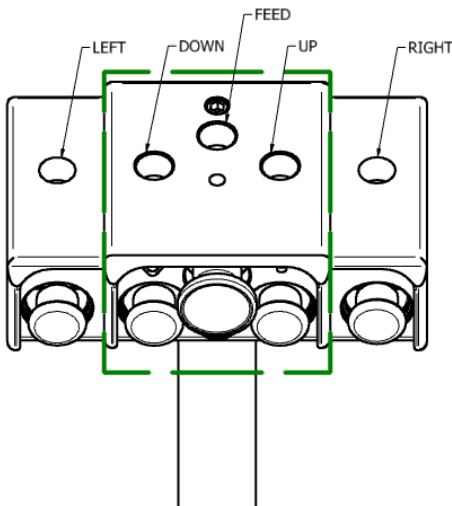
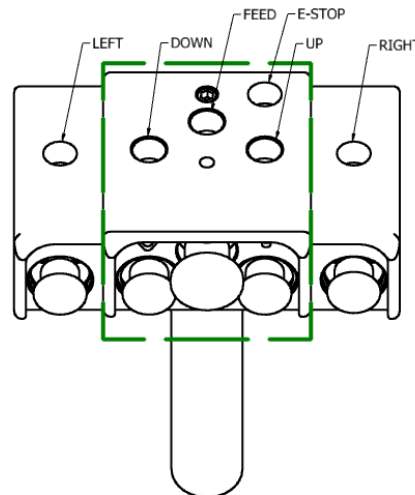

Figure 3: Pendant control with Pilot Line E-stop
Figure 4: Pendant control with Mainline E-stop
For Hoists fitted with a pilot line E-stop the pilot hoses must be attached to the appropriate control ports as shown in Figure 3.
**The pilot control for an air hoist without an air motor driven trolley will only have the ports inside the dotted green square in Figure 3 and Figure 4.**
The mainline E-stop has an additional E-stop port as shown in Figure 4.